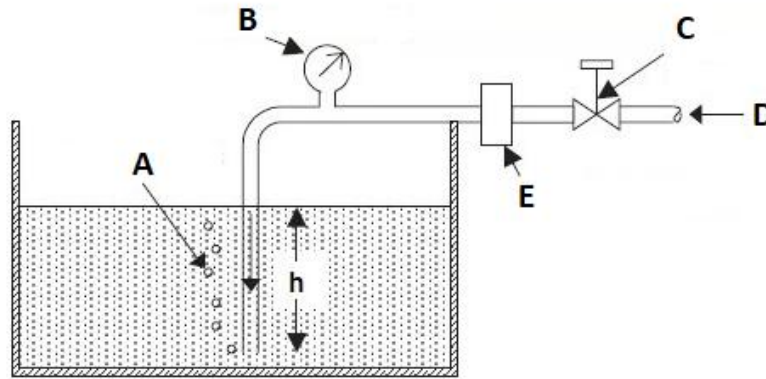

Figure 2 (a) / Rajah 2 (a)
- (a) Name the bubbler devices A, B, C, D and E in Figure 2 (a) that are applied in indirect level measurements.